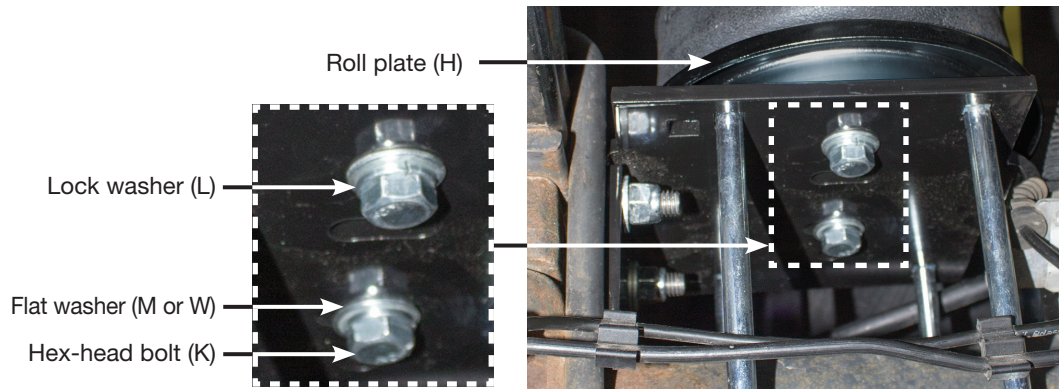

fig. 20
2. Looking below, line up the hole in the roll plate with the air spring and attach using the 3/8" hex-head bolt (K), lock washer (L) and flat washer (M or W) (Fig. 20). Repeat for the other mounting hole in the bracket. Since it will be hard to torque this bolt, unless using a crows foot wrench adapter, just tighten the hardware securely (no more than 20 lb.-ft. (27Nm)). Repeat for the other side.